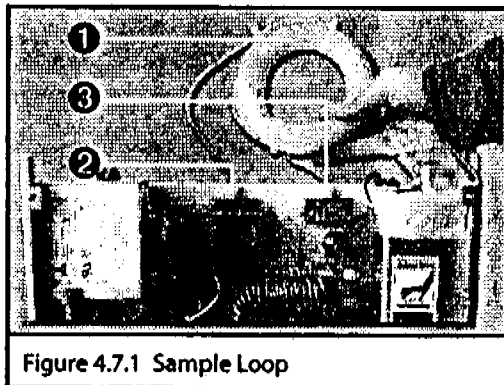

Figure 4.7.1 Sample Loop
5. Disconnect the 1/8" tubing fitting that connects the one end of the sample loop (❶, Figure 4.7.1) to the sample valve (❷).
6. Disconnect the 1/8" tubing fitting that connects the other end of the sample loop to the drain valve (❸).